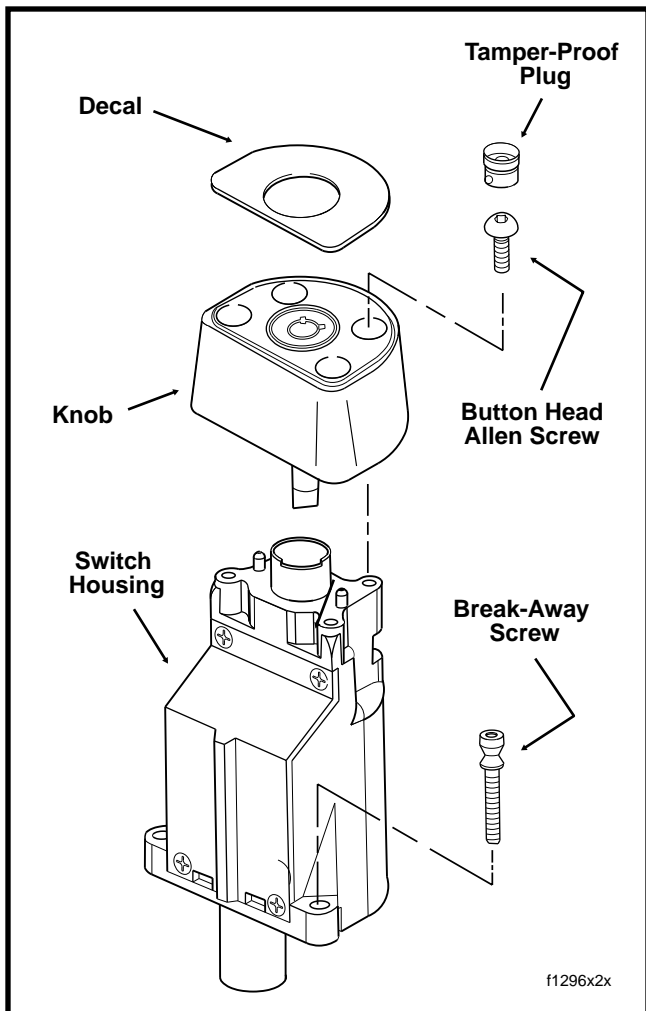

Figure 5. Ignition Switch Assembly (International)
5. Pull out the four aluminum tamper-proof plugs with a stud extractor or Easy-Out. If necessary, carefully drill out plugs using a 3/8 inch or 9.5mm bit, but exercise caution to avoid damaging hex in button head allen screws. See Figure 5.